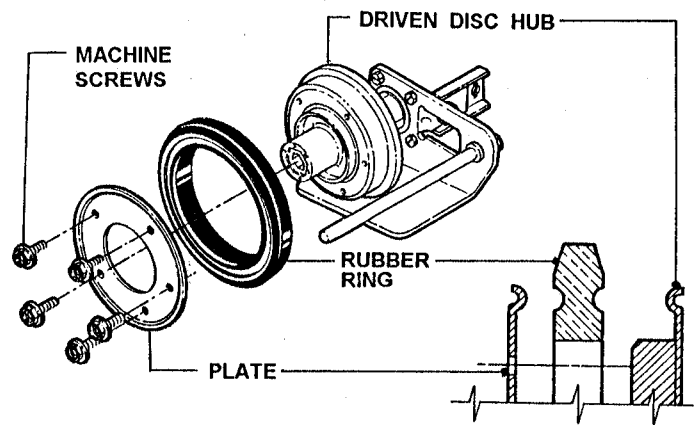

FIGURE 3.16
- (c) Remove the five machine screws and plate which secure the rubber ring to the driven disc hub. See Figure 3.16.